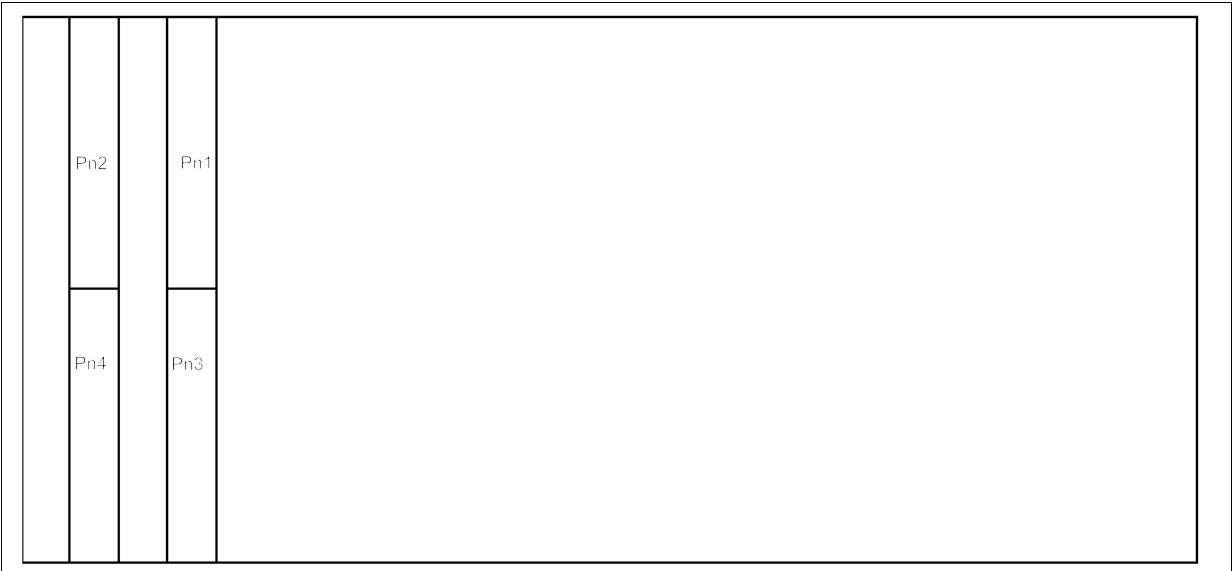

Figure 2 : PMC Connector Layout on FC PMC Adapter
The PMC interface allows the FC Adapter to be fitted on any host carrier card conforming to the PMC specification. The Adapter interface to a 64-bit/66 MHz host PCI bus and is backward compatible with a 32-bit/33 MHz PCI bus. The system interface is designed to minimize the amount of time spent on the PCI bus for non-data moving activities such as initialisation, command and error recovery. The interface consists of a PMC bus interface and a number of bus-mode signals. On the FC Adapter the bus-mode signalling is implemented using a Programmable Array Logic (PAL) device, which prevents the card from operating on a non-PMC bus and allows the host to sense the presence of a card in a PMC slot. Refer to the PMC specification [Par. 2.2.2] for a complete description of the PMC interface signals and to the Common Mezzanine Card (CMC) specification [Par. 2.1.1] for information on bus-mode signalling. The Conduction-Cooled (CC) Adapter uses the backplane for I/Os via Pn4 in Figure 2.
Figure 2 shows the layout of the PMC connectors on the PMC Adapter.